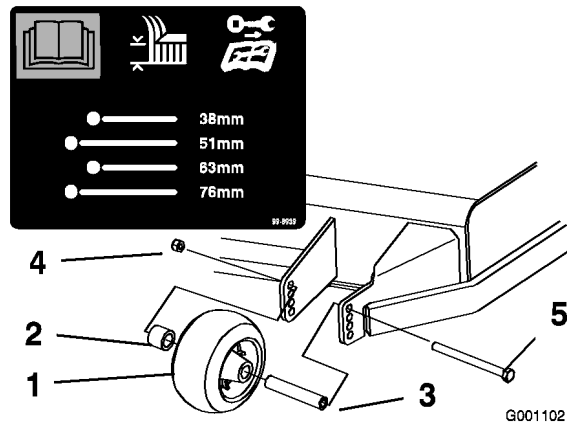
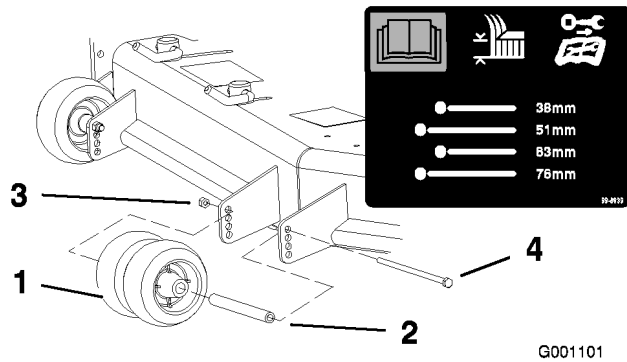
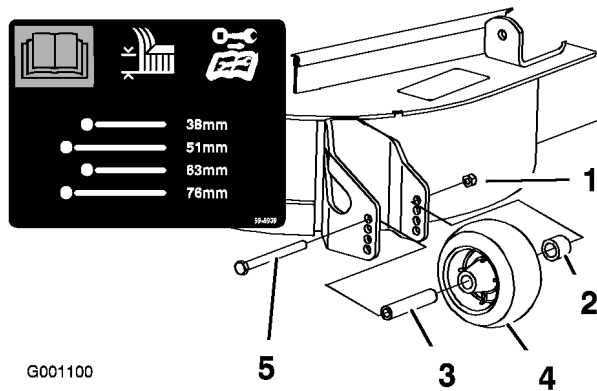

Figure 18
Figure 19
Figure 20
3. After adjusting the height-of-cut, adjust the rollers by removing the flange nut, bushing, spacer, and bolt (Figure 18 , Figure 19 and Figure 20).
- Note:** The two middle rollers will not have a spacer (Figure 19).
5. Install the flange nut bushing, spacer, and bolt. Torque to 40-45 ft-lb (54-61 N•m) (Figure 18 , Figure 19 and Figure 20).